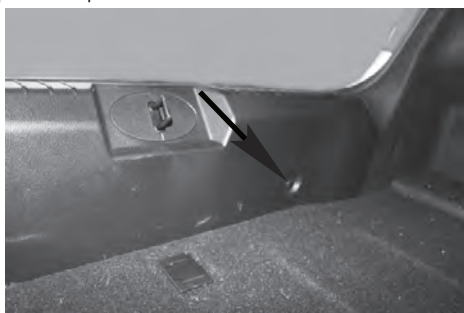

Figure 1
2. Open trunk and remove spare tire floor cover and set to the side. To remove threshold plate remove two push pins on front of threshold plate shown in **Figure 1** using a pair of plier. Pull up on threshold to remove and set to the side.